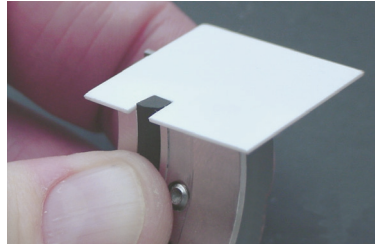

Figure 9
- 4.6 Push the end into the adhesive and check the gasket extension with the height gauge. Hold it in place for 10 seconds. See Figure 9.